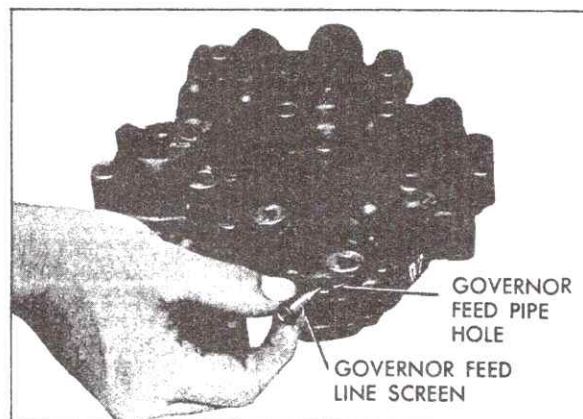

Fig. 7-52 Removing Governor Feed Line Screen
13. Remove governor oil feed screen assembly from governor oil feed hole in control valve body, Fig. 7-52.
22. Install governor oil feed screen assembly in governor oil feed hole in control valve assembly, Fig. 7-52.